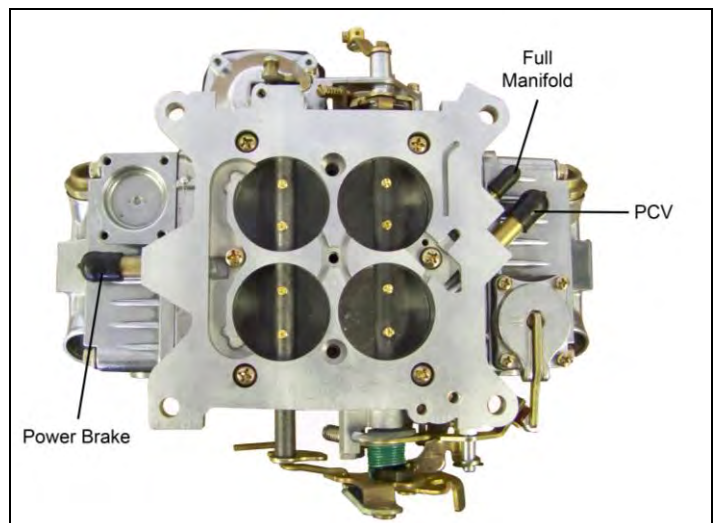

**Figure 6**
6. Reconnect the appropriate vacuum hoses to the carburetor, noting the correct fitting from Figure 6 and 8.
8. Connect the power brake hose to the fitting as shown in Figures 6 or 8.